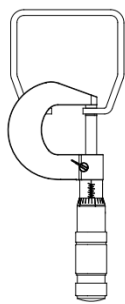

Fig. 57
- Every six months or less, check the working surfaces of the track profiles and bends for wear, using a micrometer. (fig. 57) A table with the nominal thickness and the minimum permitted thickness of the track profiles for each series is provided below.